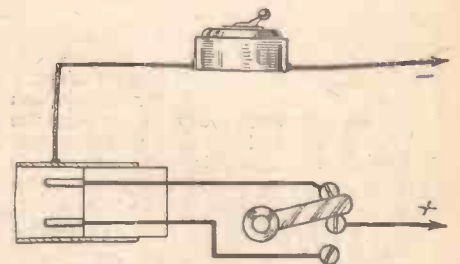
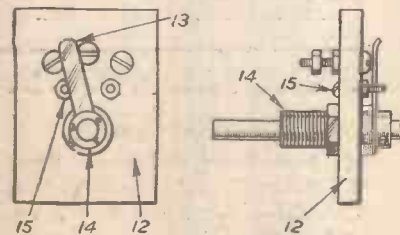

Fig. 8.—Connections for double-filament 18/3 bulb, using the switch shown in Fig. 7.
Fig. 7.—Back and side view of "snap action" changeover switch for use with double filament 6-8 volt, 18/3 watt bulbs for use in reading lamps.
Old candle or oil lamps, with good silvered reflectors, can often be converted into ideal reading-lamps. The photograph on page 520 shows a typical conversion, using an old parabolic reflector candle-lamp. A small toggle panel-mounting switch is fitted into the base. The best type of bulb for these lamps is a double filament double contact car-bulb, rated usually at 6-8 volts, 18 and 3 watts. The appropriate filament is selected by a small changeover switch, made from the wiper of an old wire-wound rheostat or volume control, moving over small round-headed brass 6 B.A. bolts arranged on a piece of fibre or paxolin (12, Fig. 7). The wiper (13) moves in its original bush (14), and just
touches a pair of the bolt heads, giving a pleasant "snap-action" as it crosses the central bolt. Two small bolts (15) act as stops. Fig. 7 shows details of the construction of this switch, while it can clearly be seen on the base of the reading-lamp shown on page 520. Fig. 8 gives the connections necessary when using the switch to control a double filament bulb. From this it is obvious that the holder could be wired up with only one contact-stud in use, the second wire being attached to the metal of the holder. Changing from one filament to the other would then be effected merely by reversing the bulb in the holder, so that the "live" contact of the holder would touch the other contact of the bulb. This would eliminate the changeover switch, and is particularly useful for positions where a strong light is needed only now and again (e.g., a shaving light for the bathroom).